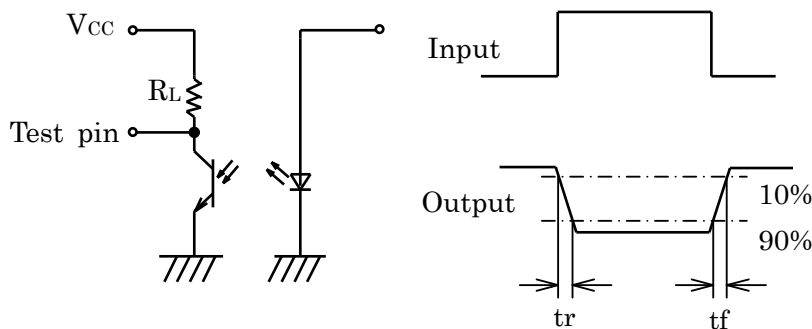

Fig.1 Forward current vs. ambient temperature
- \*1 The derating factors of absolute maximum ratings due to ambient temperature are shown in Fig. 1, 2, 3.
<Fig 1>
200 products are put in the tray. <Fig.1>